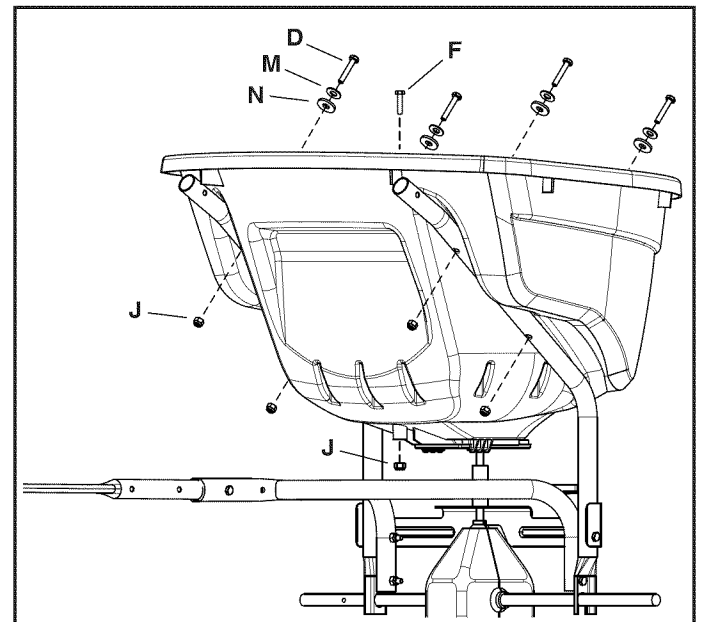

FIGURE 8
STEP 8: (SEE FIGURE 8)
- Attach the hopper to the hopper support tubes using four 1/4" x 1-3/4" hex bolts (D), 1/4" washers (M), nylon washers (N) and 1/4" nylock nuts (J). **Make only finger tight.**
- Insert the 1/4" x 1" hex bolt (F) into the hole in the bottom of the hopper, pressing the head of the bolt into the hex shaped recess of the hole. Install a 1/4" nylock nut (J) onto the bolt and **tighten.**